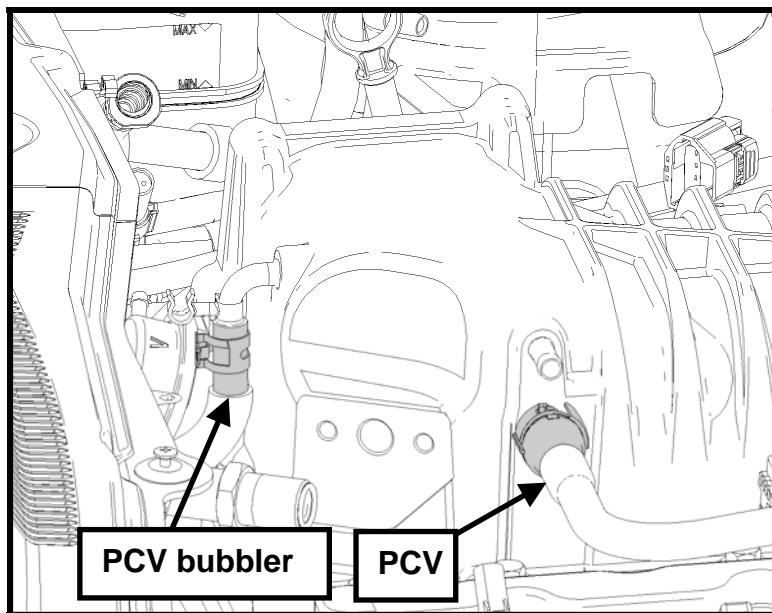

Fig. 11
STEP 11: Disconnect the PCV and PCV bubbler hoses from the supercharger (See Fig. 11).